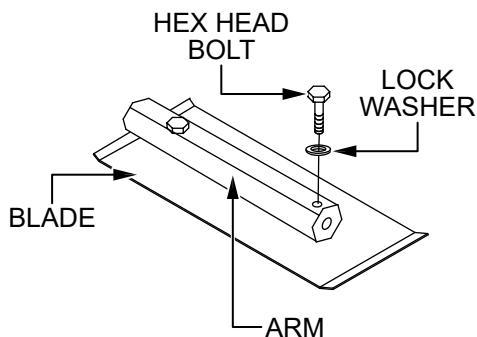

Figure 49. Blade Removal
2. Remove the two bolts and lock washers securing the blade to the trowel arm (Figure 49), then remove the blade.